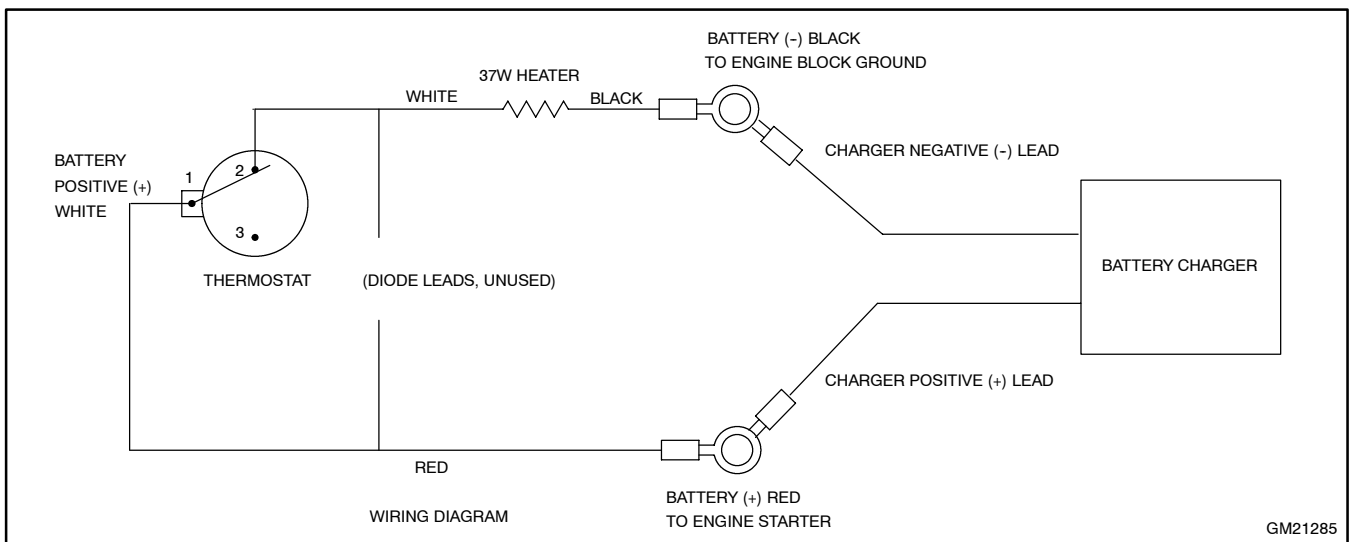
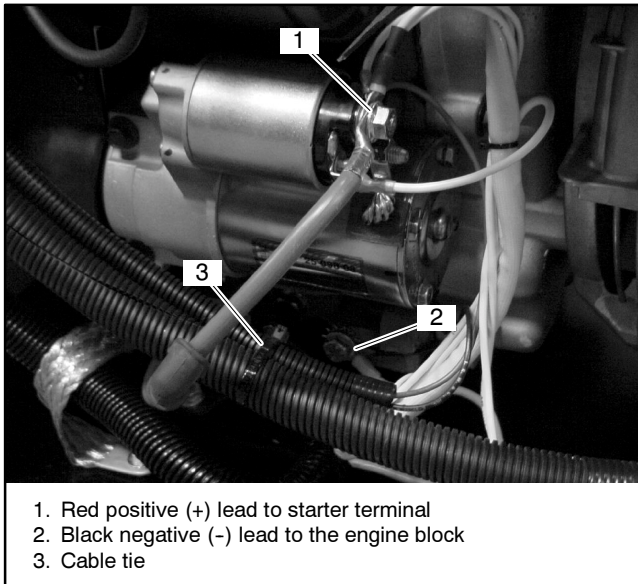

Figure 21 Connection Configuration without the Diode (Use this configuration for chargers rated 4 amps or more that produce less than 14 VDC at 3 amps.)
Figure 22 Connecting the Heater Power Leads
2. Connect the thermostat leads. See Figure 21.
- b. Connect the red lead to thermostat terminal #1. See Figure 21.
- a. Connect the positive (+) lead from the battery charger to the engine starter positive battery connection. See Figure 21 and Figure 22.
- b. Connect the negative (-) lead from the battery charger to the engine block ground screw. See Figure 21 and Figure 22.
2. Connect the red (positive) lead to the engine starter positive battery connection. See Figure 22.
3. Connect the black (negative) lead to the engine block ground screw. See Figure 22.
4. Secure the wiring harness with cable ties as shown in Figure 22.